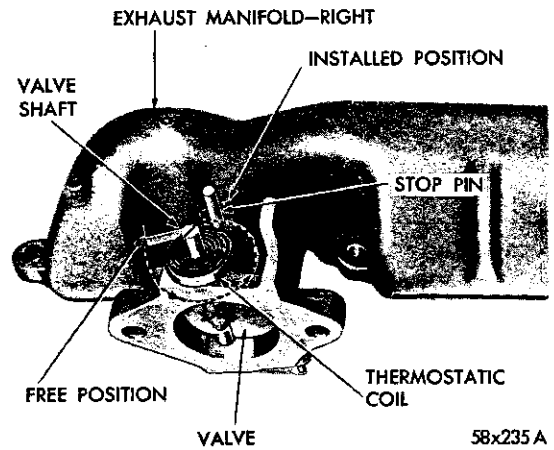

Fig. 9—Positioning the Coil
(2) Place the new coil in position in the shaft slot, with the outer end (tongue) of the coil in the lower left hand position, as shown in Figure 9. Press the inner end of the coil into the slot of the shaft and seat firmly.